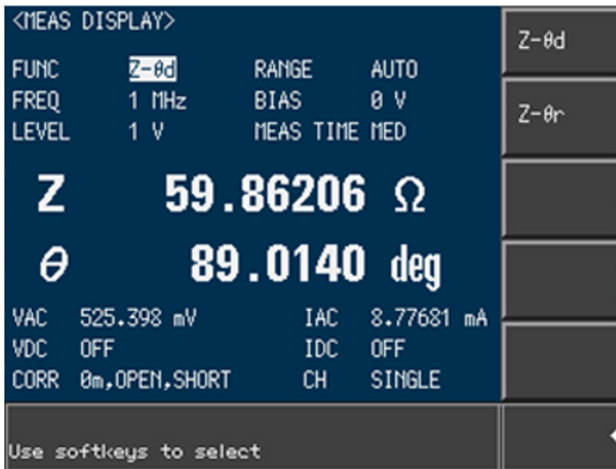

Figure 3. Measured value of 10 uH inductor at 1 MHz.
- You will see the impedance value (Z) at spot frequency (Figure 3)